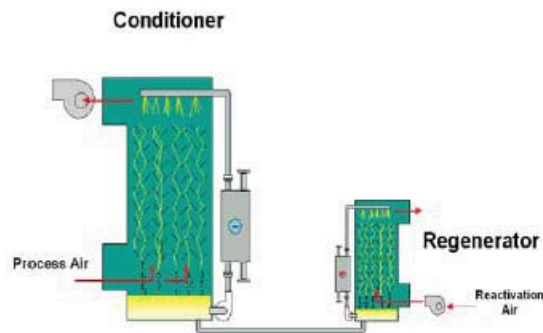

Figure A1-10 Liquid Desiccant
2) **Liquid Desiccant** (Figure A1-10)